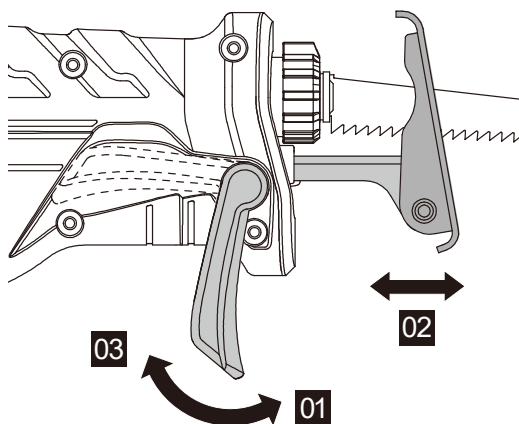

Figure 3
2. DEPTH OF CUT ADJUSTMENT (SEE FIG. 3)